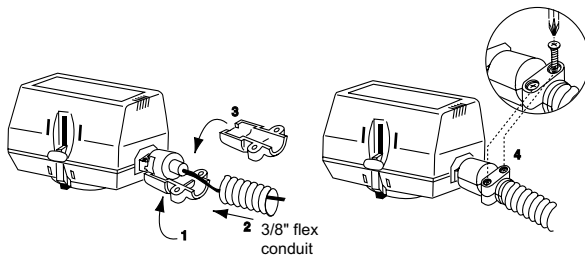

Figure 4 - Flexible Conduit Attachment
2. Connect leadwires. See Figure 4 for flexible conduit installation with plenum-cable models.